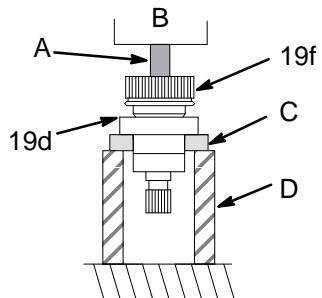

Fig. 22
4. **Using a hydraulic press**, place pieces of steel bar stock on the inner race of the large bearing (19d) and press the shaft through the hub and bearing. See Fig. 22.